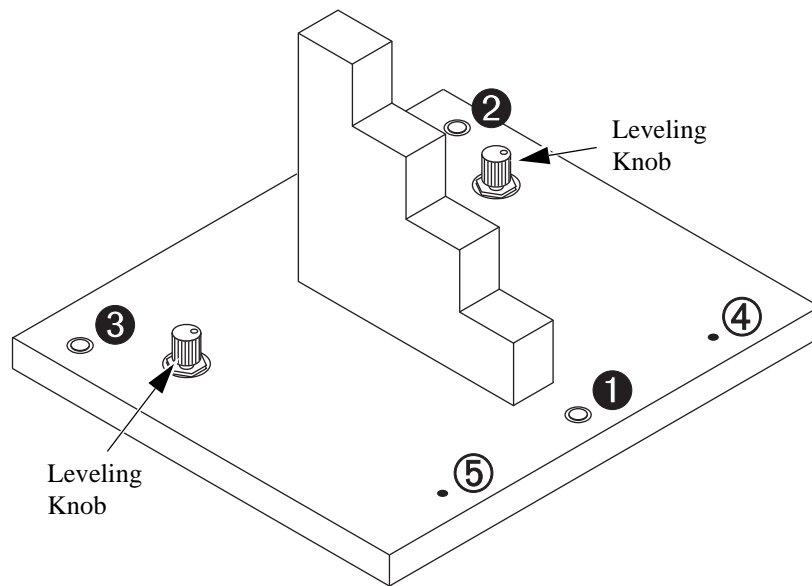

Figure A-7 Leveling the Step Gage
- a. Use the joystick to drive the stages so focus point ❶ (see Figure A-7) appears in the Video window.
- c. Select the High Mag camera and perform an autofocus on focus point ❶.
- e. Drive the stages so focus point ❷ (see Figure A-7) appears in the Video window.
- f. Perform an autofocus on focus point ❷.
- If the Z value for focus point ❷ is within ± 0.002 mm (0.00008") of the Z value for focus point ❶, no adjustment is required; go to Step 9h.
- If the Z value is not within ± 0.002 mm (0.00008"), use the leveling knob adjacent to focus point ❷ to level the step gage; continue with the next step.
- h. Drive the stages so focus point ❸ (see Figure A-7) appears in the Video window
- i. Perform an autofocus on focus point ❸. The Z value in the DRO window should be zero or very close to zero.
- If the Z value for focus point ❸ is within ± 0.002 mm (0.00008") of the Z value for focus point ❷, no adjustment is required; continue with Step 10.
- If the Z value is not within ± 0.002 mm (0.00008"), use the leveling knob adjacent to focus point ❸ to level the step gage; continue with the next step.
12. Drive the stages so the left through hole (④ in Figure A-7) appear in the Video window. Then position the Crosshair Finder on the right edge of the hole (3 o'clock position).
14. Drive the stages so the right through hole (⑤ in Figure A-7) appears in the Video window. Then position the Crosshair Finder on the right edge of the hole (3 o'clock position).